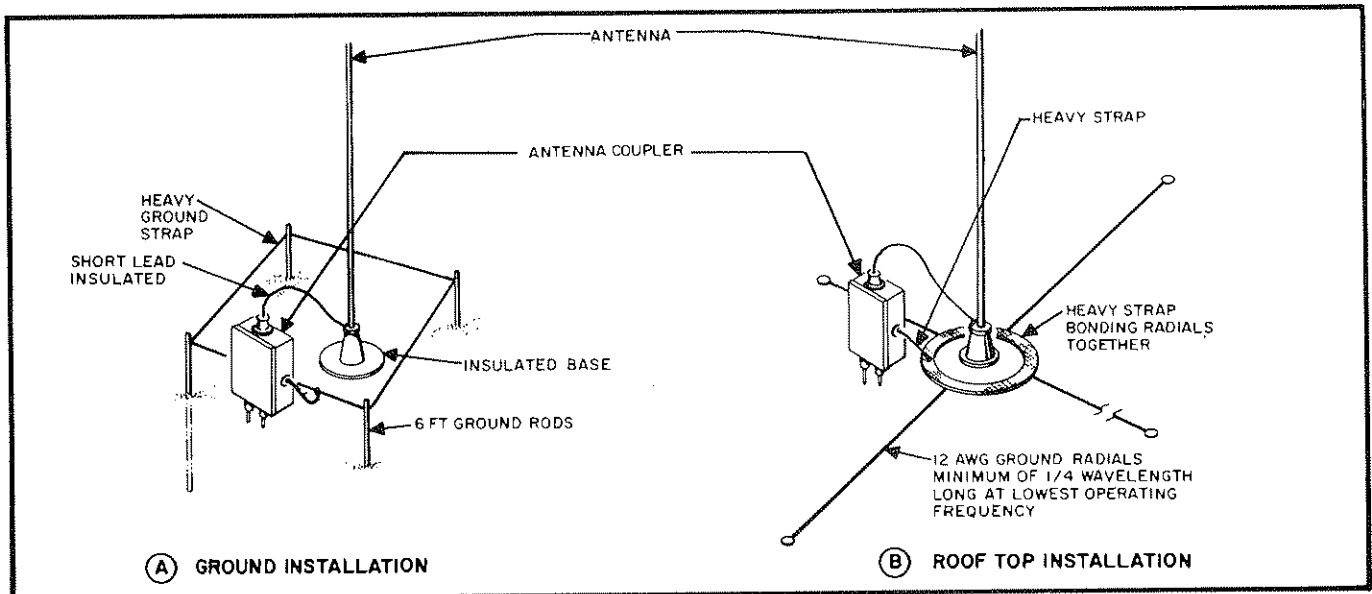

Figure 2.7 Whip Antenna
c. When using whip antennas, the ground system actually forms part of the radiating system. Where space permits (such as in a base station installation) a good ground plane or radial system should be installed at the base of the antenna. (See Figure 2.7)
Whips and long wires are popular non resonant antennas. The whip antenna (illustrated in Figure 2.7) is often used in mobile, marine, portable or semi portable installations because it is rugged and self supporting. The antenna impedance is strongly dependent on the operating frequency and an antenna coupler, therefore, must be used to match the antenna to the transceiver. Best radiation efficiency will be obtained if the antenna is at least 1/8 wavelength long at the lowest operating frequency; however, this requirement does not result in a practical size antenna for low frequency operation. Thirty-five foot whip antennas offer a good compromise between practical height and good electrical performance at low frequencies. The Antenna Couplers are designed to efficiently match whip antennas of 15 foot length or greater. An efficient match may also be obtained for a 9 foot whip above 4 MHz. The whip's performance is greatly influenced by its ground system. For temporary base station installations, a minimum of four six foot long ground rods should be driven into the ground symmetrically placed around the antenna base. The rods should be bonded together with heavy strap and then connected to the antenna coupler ground by another short heavy strap. If the antenna is mounted on the roof of a building, where a short ground lead to the coupler cannot be obtained, a minimum of 4 symmetrically placed